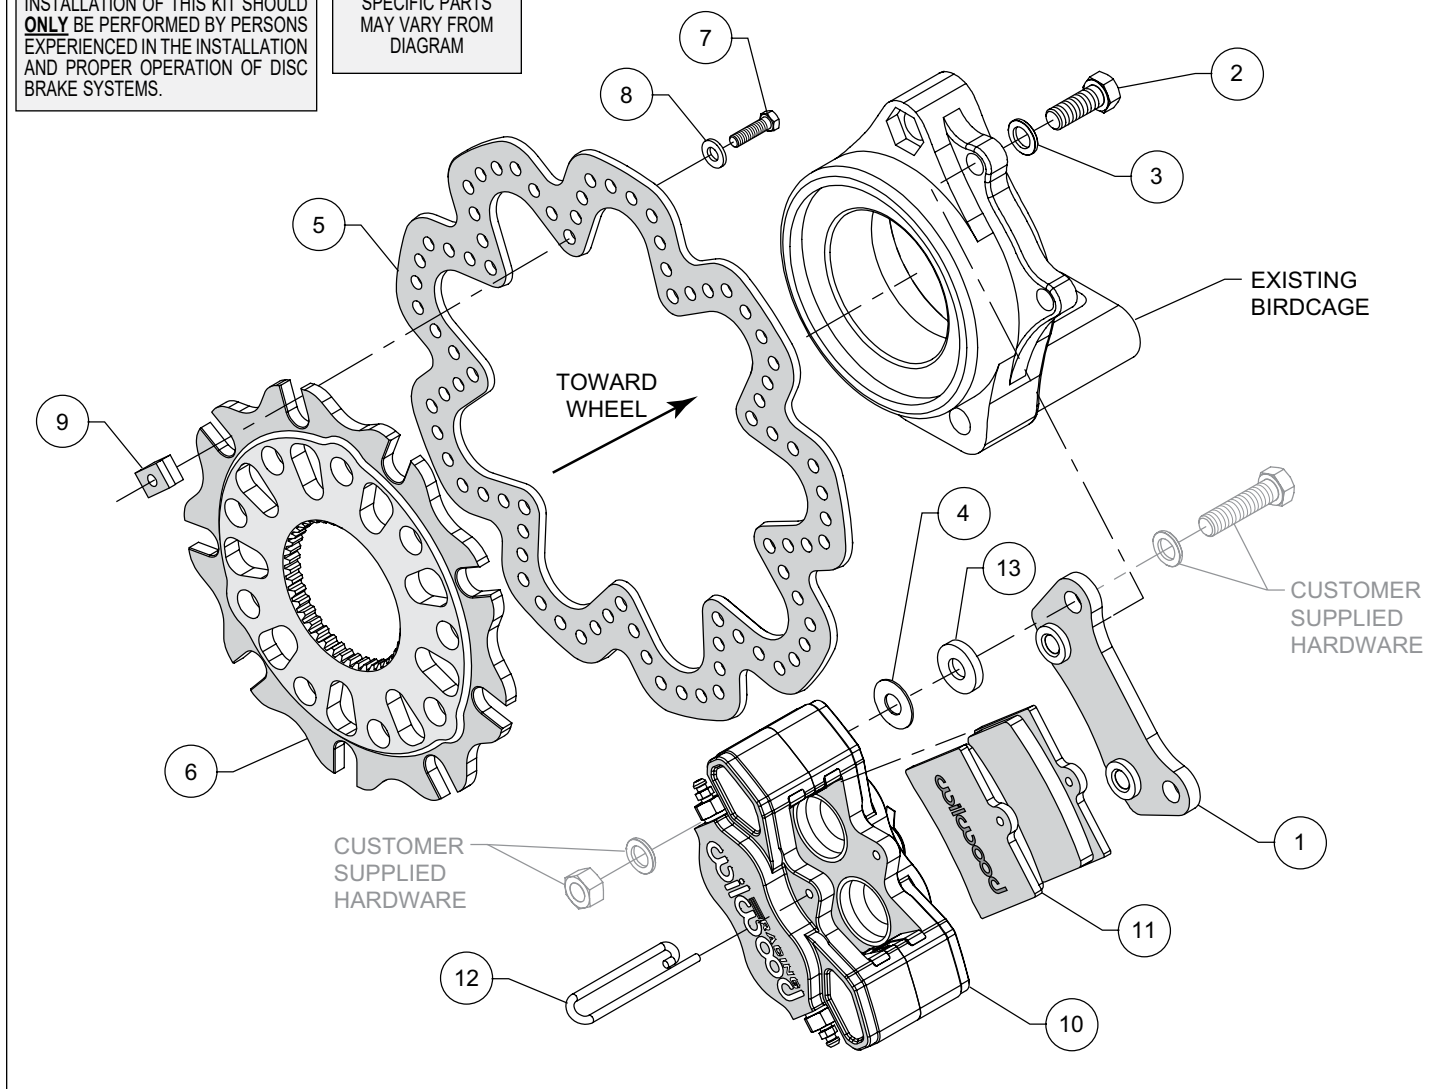
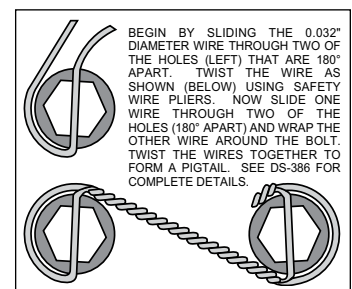

Figure 1. Typical Installation Configuration
Figure 2. Safety Wire Diagram
NOTE: Numbers in parenthesis refer to the parts list and Figure 1 on the preceding pages.
- Orient the caliper mount bracket (1) as shown in Figure 1, and install using bolts (2), and washers (3). Ensure that the flanged heads of the clinch nuts in the bracket are facing outboard. Temporarily tighten the mounting bolts. **NOTE:** The bracket must fit squarely against the mount bosses on the birdcage. Inspect for interference from machining ridges, burrs, etc. Remove bolts one at a time, apply red *Loctite*® 271 to the threads and torque to 40 ft-lb. For an added measure of security, the bolts may be safety wired using standard 0.032 inch diameter stainless steel safety wire as shown in Figure 2. Please refer to Wilwood's data sheet DS-386 (available at www.wilwood.com/Pdf/DataSheets/ds386.pdf) for complete safety wire installation instructions.
- Mount the rotor adapter (6) with the notched t-nut slots facing away from the rotor (5) using bolts (7), washers (8), and t-nuts (9) as shown in Figure 1. Apply red *Loctite*® 271 to the bolt threads before installing. Finger tighten. After all t-nuts have been installed, torque bolts in an alternating sequence to 120 **in-lb**. Please refer to Wilwood's data sheet DS-669 (available at www.wilwood.com/Pdf/DataSheets/ds669.pdf) for complete t-nut bolt kit installation instructions.
- Mount the caliper (10) onto the bracket (1) using customer supplied hardware, Figure 1. Initially place one .035" thick shim (4) and spacer (13) on each bolt between the caliper and bracket as shown in Figure 1. Temporarily tighten the bolts/nuts and view the rotor through the top opening of the caliper. The rotor should be centered in the caliper. If not, adjust by adding or subtracting shims (4) between the bracket and the caliper mount lugs. Once the caliper alignment is correct, torque customer supplied mounting hardware as required. Use of red *Loctite*® 271 is recommended.
- Remove the pad pin retainer (12) from the caliper (10). Slide the brake pads (11) into place. They should install easily without interference. Reinstall the pad pin retainer.